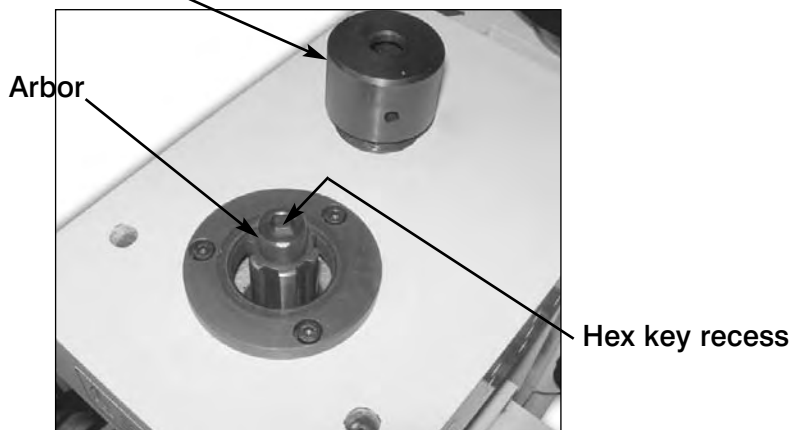
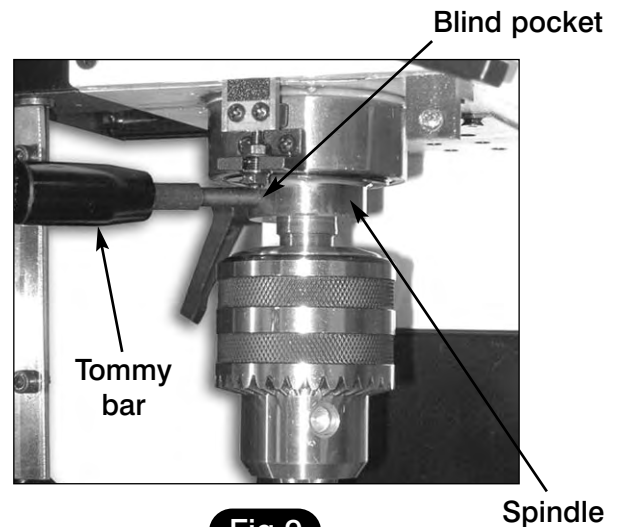

Fig 8
Fig 9
1) Unscrew the draw bar cover and safely put to one side (See fig 8). Turn the spindle lock handle clockwise to lock the spindle. (See page 11)
2) Open the chuck guard, locate a 8mm hex key and the tommy bar. Insert the tommy bar into the blind pocket's recess in the spindle (See fig 9), insert the 8mm hex key into the top of the arbor, as shown in figs 8 & 10.
4) Insert the collet chuck into the spindle taper and screw it onto the arbor shaft. Hold the collet chuck, using an adjustable or 'C' spanner (See fig 13). Insert the 8mm hex key into the recess on top of the arbor as shown in figs 8 & 10, while holding the chuck tighten the arbor (**DO NOT OVERTIGHTEN**)